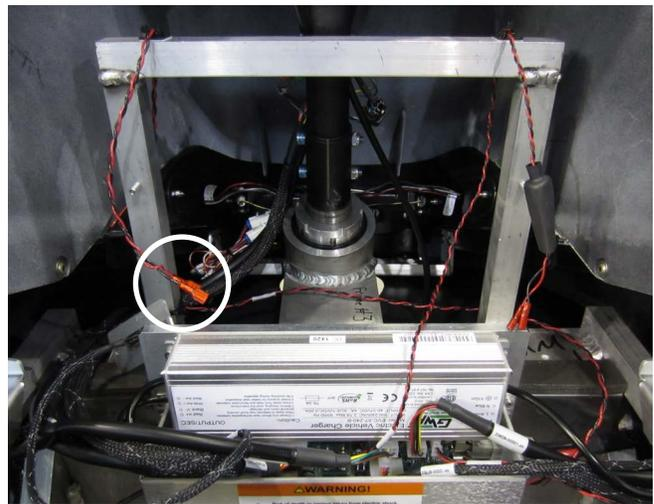

Figure 178: Accessory Power Harness Routing
3. Route the harness around the right side of the frame, and up to the top left of the frame. See Figure 178.